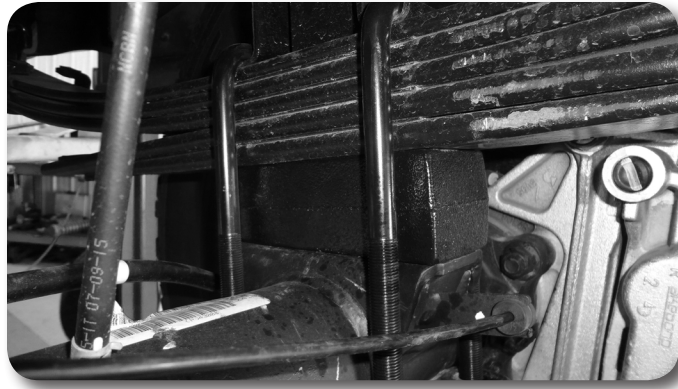

Figure 18
40. Using the support jack, raise the axle so that the axle, spring and block are all touching. Install the new provided u-bolts, nuts and washers allow with the factory u-bolt plate. Snug u-bolts but do not tighten **Figure 18**.